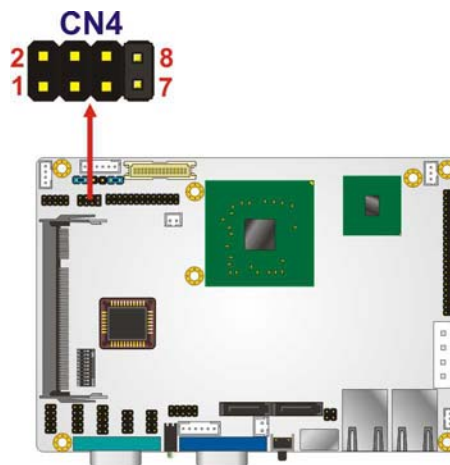

Figure 5-4: AT/ATX Power Supply Selector Location
- Jumper Location:** See Figure 5-4
The AT/ATX Power Supply Selector jumper location is shown in **Figure 5-4** below.